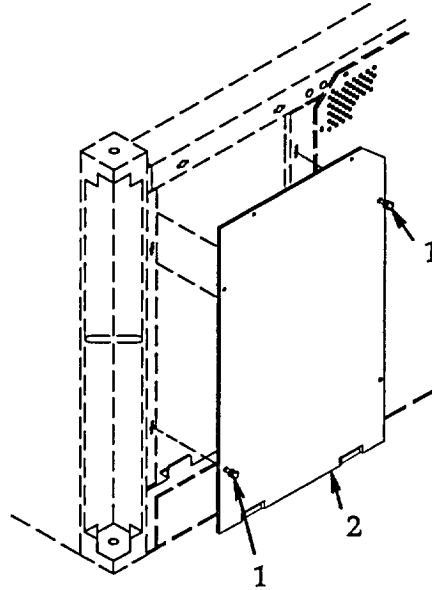

Figure 4-20. Access Panel.
a. Removal. See figure 4-20.
- (1) Shutdown the FDECU per paragraph 2.4.
- (2) Turn to release six captive hardware fasteners (1) and remove access panel (2).
b. **Installation.** See figure 4-20.
- (1) Install access panel (2) and engage six captive hardware fasteners (1) to secure.
- (2) Connect FDECU to power source and operate per paragraph 2.4.